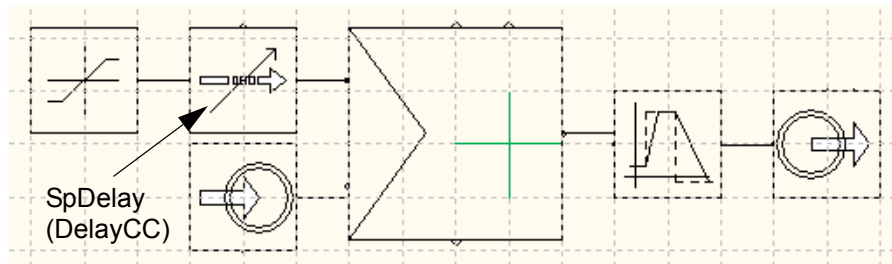

Figure 111. The result in of the new control solution in CMD editor
- 10. Create an instance of DelayCC type (ControlExtendedLib) with instance name SpDelay and add it between the SpLim and Pid control modules. Make sure that the graphical connections are correct. See Figure 111.